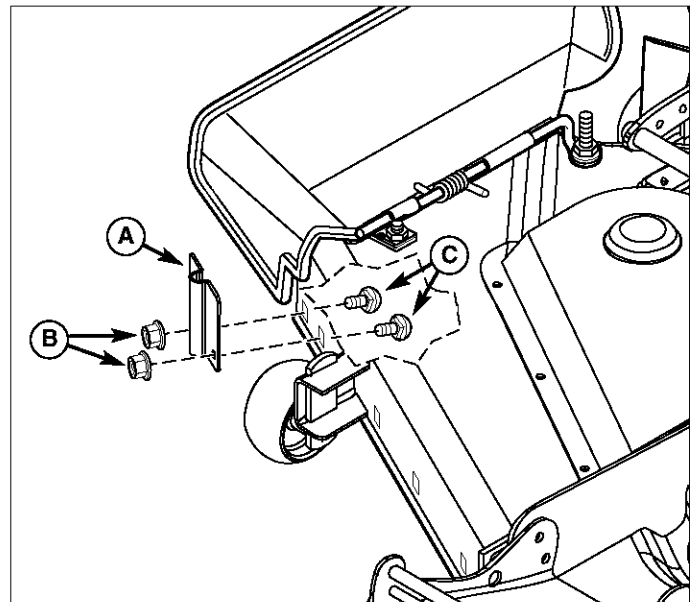

**Figure 1. Baffle Removal**
2. Remove and discard 5/16-18 locknuts (A, Figure 1) and 5/16-18 x 7/8 carriage bolts (B).
3. Remove and discard the old baffle (C, Figure 1).
**NOTE:** The old baffle (C, Figure 1) is permanently replaced by the new baffles (F & G, Figure 3) included with this bagger.